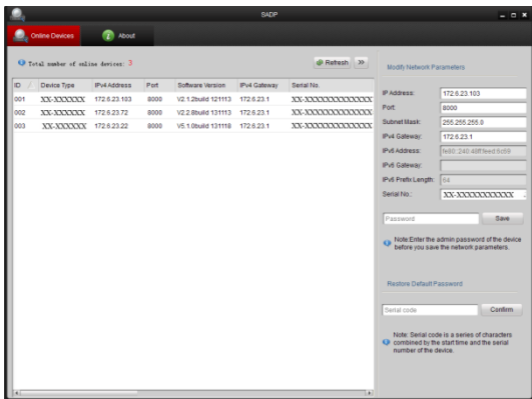

Figure 3-4 Search Online Devices
- Use SADP, a software tool which can automatically detect network camera in the LAN and list the device information like IP address, subnet mask, port number, device serial number, device version, etc., shown in Figure 3-4.